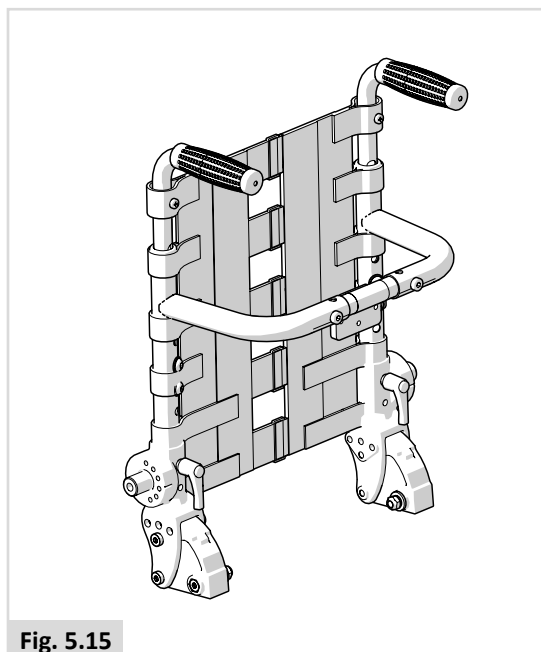

Fig. 5.15
- Quickie Teens / Zippie Kids (Fig. 5.15)